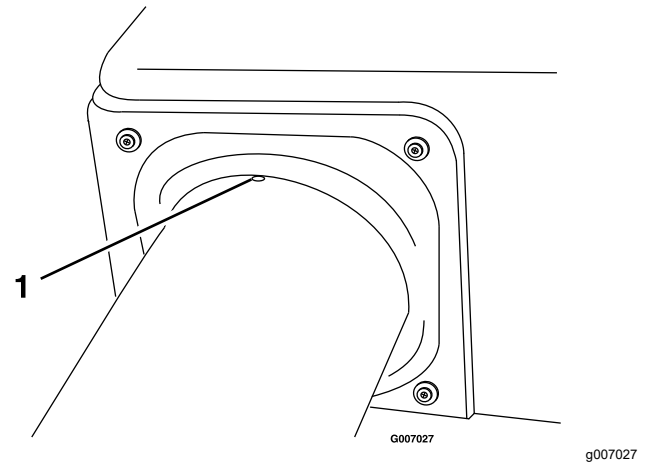

Figure 33
4. Align the dimple in the upper tube equally between the screws securing the hopper seal to the hopper (Figure 33).
8. Verify that the dimple from Figure 33 is still in place.